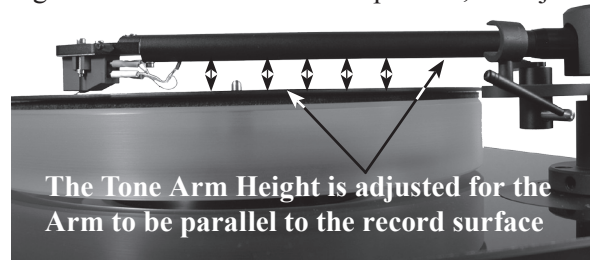

Figure 30
- Release the Tone Arm from the Tone Arm Rest, place it on a record and check to see if the Tone Arm is parallel to the surface of the record. Refer to figure 30. With the Tone Arm parallel, no adjust-
- Release the Tone Arm from the rest and place it on a record and check to see if the Tone Arm is now parallel. Also check to make sure the Tone Arm is parallel to the record platter and the right side of the turntable base. Refer to figure 30.